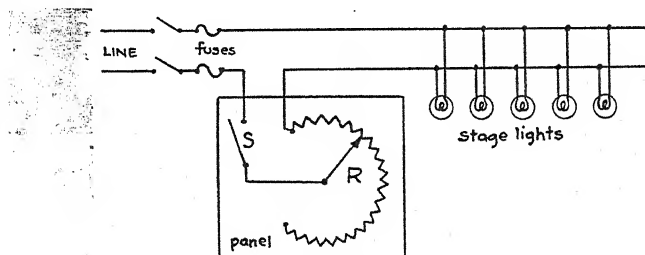

FIG. 9. Stage-lighting-circuit controls.
**17. Controlling Current Flow.** Switches and rheostats offer a means for completely controlling the amperage, at will. Consider such a circuit as shown in Figure 9, where a scheme is diagramed for controlling stage lights in a theater.